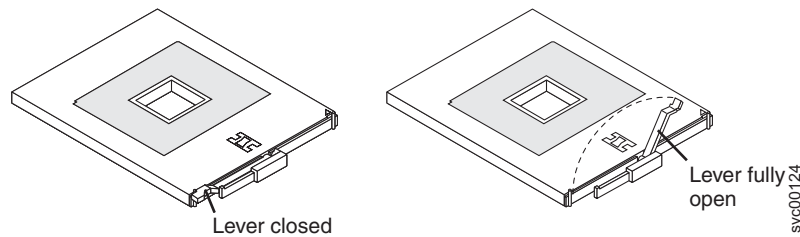

Figure 72. Microprocessor with arm locked and fully opened
7. Rotate the microprocessor socket lever arm upward to its maximum vertical position. See Figure 72.